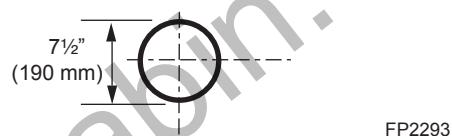

Figure 16 -
Locate vent opening on the wall. It may be necessary to first position the fireplace and measure to obtain hole location. Depending on whether the wall is combustible or noncombustible, cut opening to size. *Figure 16* (For combustible walls first frame in opening.)
Combustible Walls: Cut a 9 $\frac{5}{8}$ "H x 9 $\frac{5}{8}$ "W (244 x 244 mm) hole through the exterior wall and frame as shown. *Figure 16*
- Establish vent hole through the wall. *Page 17, Figure 16*